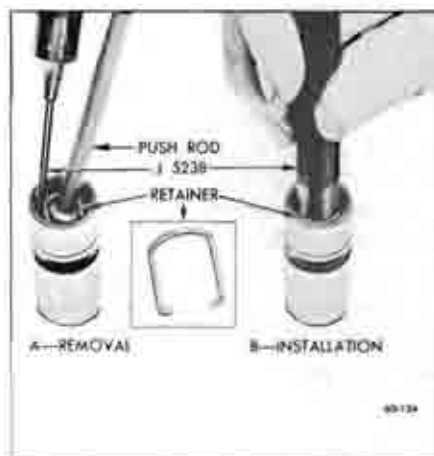

Figure 60-134—Removing and Installing Plunger Retainer
4. Disassemble each valve lifter by using a push rod to hold down the push rod seat while removing the plunger retainer from the lifter body, using Retainer Remover J-5238. See Figure 60-134. View A. Remove push rod seat and plunger from lifter body.
16. Rinse push rod seat and plunger retainer, place these parts in end of body and depress with handle of Remover J-5238 until retainer engages groove in body. See Figure 60-134, View B.